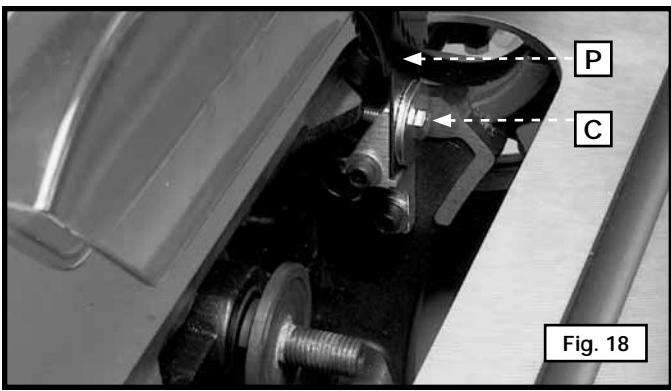
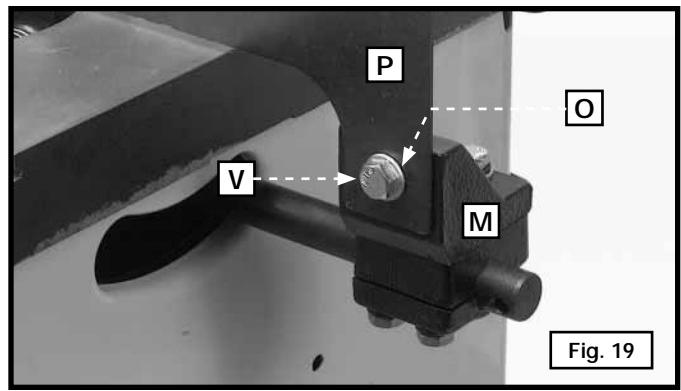

Fig. 18
Fig. 19
10. Insert the front end of the splitter (P) Fig. 18 inside the splitter mounting bracket behind the splitter fastener plate and the screw (C). Push the splitter down as far as possible, making certain that the bottom edge of the splitter (P) is parallel with the table surface. Tighten the screw (C). Fasten the splitter and the blade guard assembly (P) Fig. 19 to the bracket (M), using a 5/16-18 x 1" hex-head screw (V) and 5/16" flat washer (O).